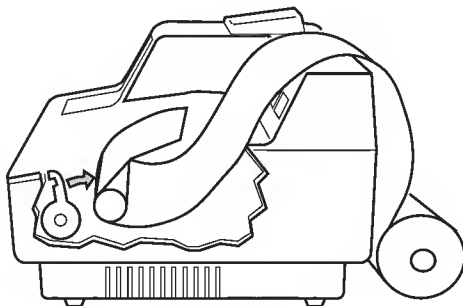

Figure 42
5. Insert the paper (from the bottom of the roll) into the slot under the pinch roller, making sure that the paper is centered. See **Figure 42**.